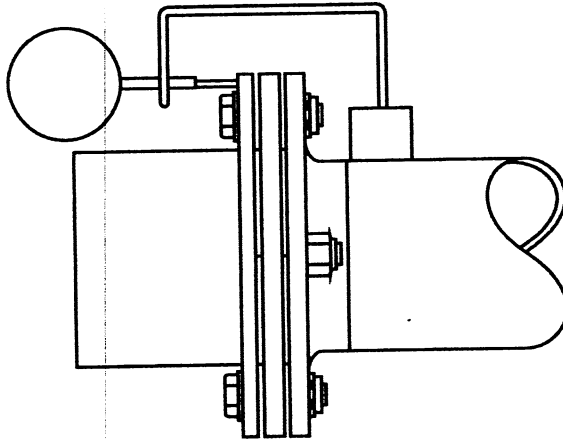

Fig. 16
Step 1: Squarely and firmly attach a dial indicator to the center member shaft and read across the flex element to the driver hub surface facing away from the indicator mounting as seen in Fig. 16.